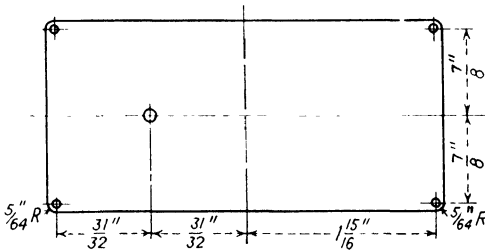

Fig. 15.
16. Find the over-all dimensions of the fitting shown in Fig. 15.